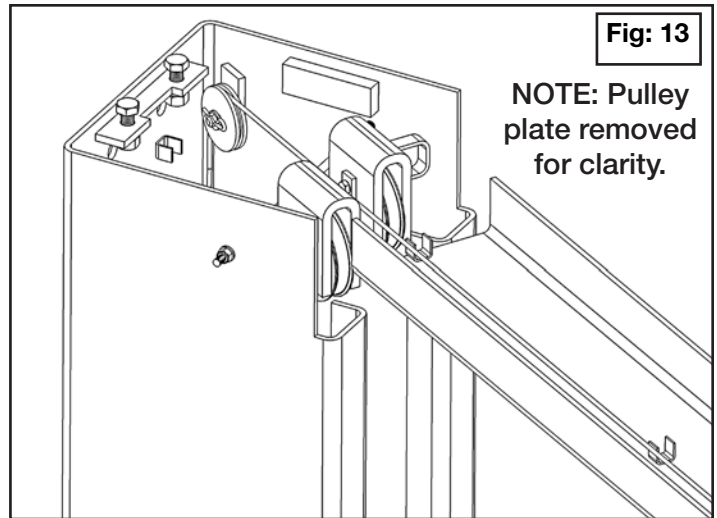

Fig: 13
3. Route the cable through the top trough safety cable pulley(s) and across the lift. (See figure 13 & 14 on next page)